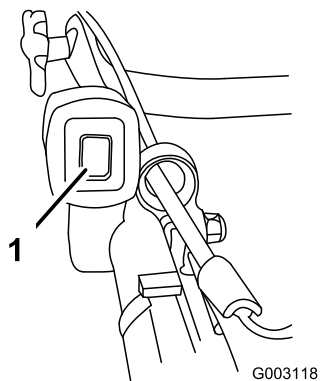

Figure 17
1. Push the ignition toggle switch to the On ("I") position (Figure 17).